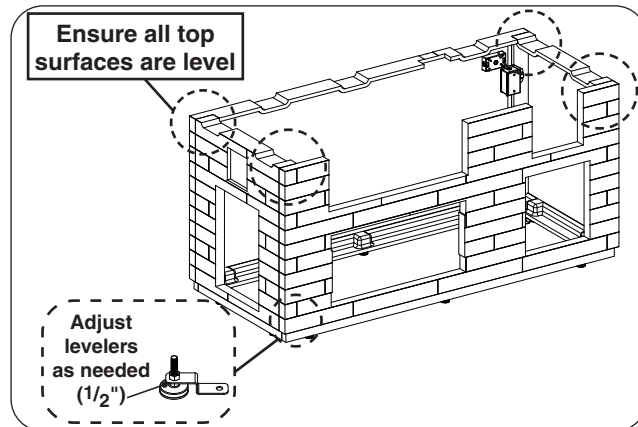

Fig. 8-2 Level assembly
1. Use the level to ensure the top surfaces of the assembly are level. The levelers at the bottom of the island may be adjusted as needed with a $1/2$ " open end wrench. See Fig. 8-2.